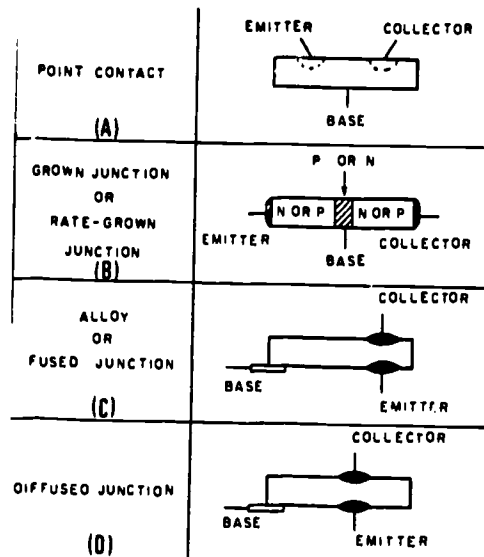

Fig 2-5. Transistor constructions.
Another point you should keep in mind is that the arrow always points into the direction of hole flow, or from the P to N sections, no matter whether the P section is the emitter or base. On the other hand, electron flow is always toward or against the arrow, just like in the junction diode. The very first transistors were known as point-contact transistors. Their construction is similar to the construction of the point-contact diode covered in study unit 1. The difference, of course, is that the point-contact transistor has two P or N regions formed instead of one. Each of the two regions constitutes an electrode (element) of the transistor. One is named the emitter and the other is named the collector, as shown in figure 2-5, view (A).